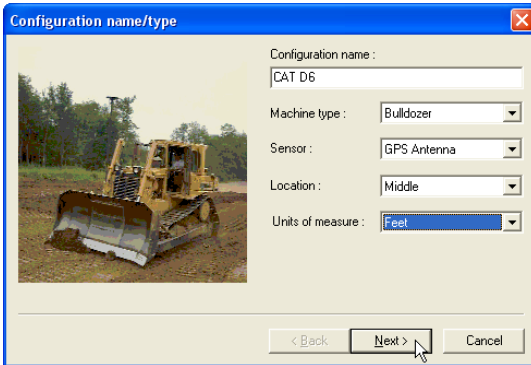

Figure 2-20. Equipment Configuration Type
3. Select the following information and click **Next** (Figure 2-20 on page 2-18):